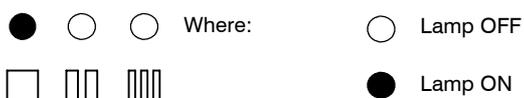

Fig. 18
- 3 The lamps F should give the indication as in Fig. 18 (reignition frequency). If not, press the reset button repeatedly to obtain it.